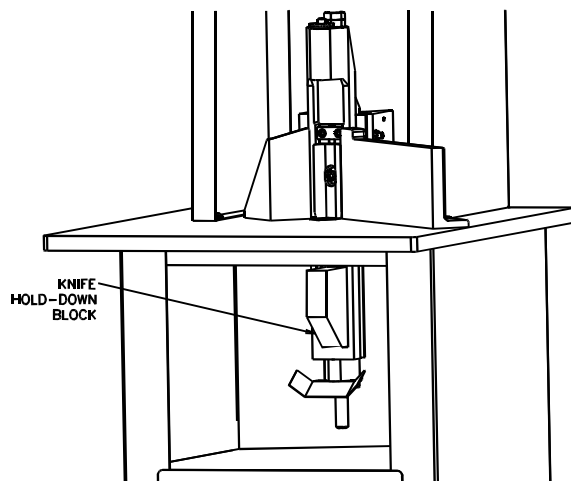

Figure 15 - Knife Hold-Down Block Placement
4. Insert the knife hold-down block as shown in Figure 15.